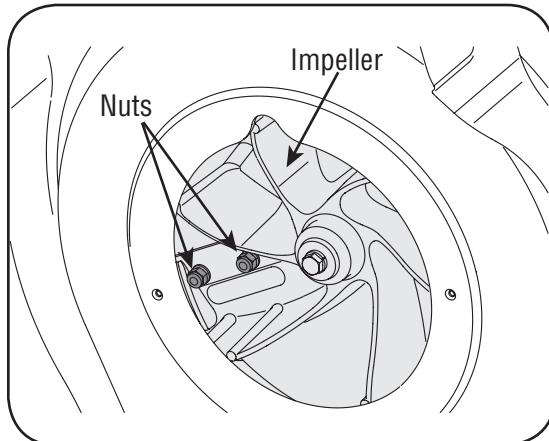

Figure 5-10
- The nuts on the flat head cap screws can be reached from underneath using a 1/2-inch socket, universal, and extension. See Figure 5-10.